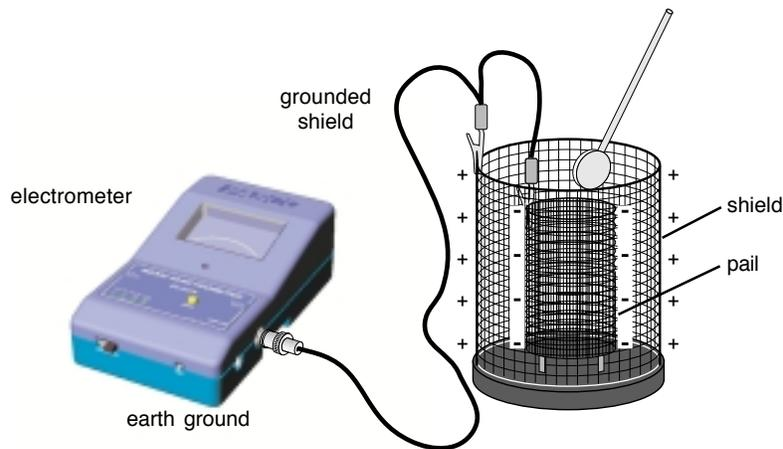

Figure 1.1 Demonstration Setup
1. Connect the electrometer to the Faraday Ice Pail as shown in Figure 1.1. Make sure to ground the electrometer and the ice pail. The electrometer should read zero when grounded, indicating there is no charge in the ice pail. Press the zero button to completely remove all charge from the electrometer and the ice pail.